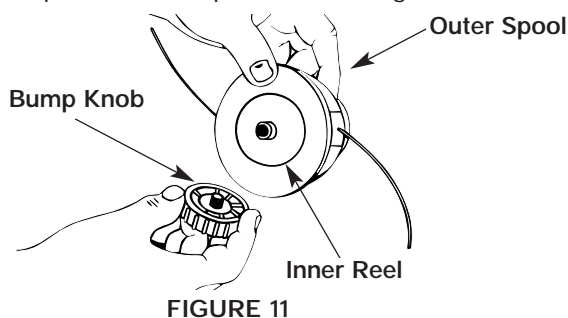

FIGURE 11
1. Hold the outer spool with one hand and unscrew the bump knob counterclockwise, Figure 11. Inspect the bolt inside the bump knob to make sure it moves freely. Replace the bump knob if damaged.